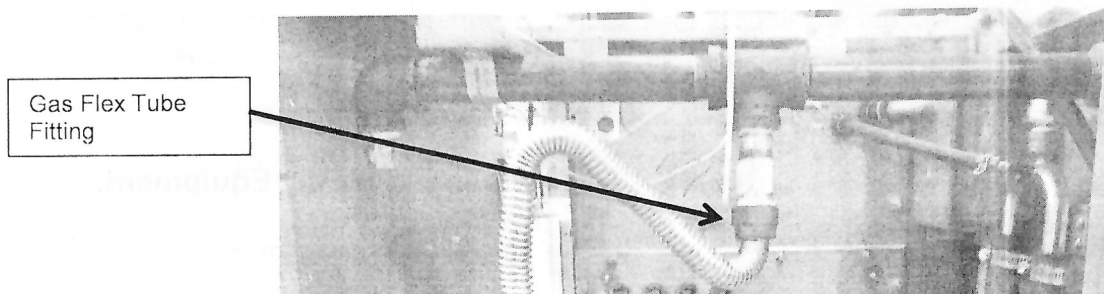

Figure 1: Gas Flex Mount
- d) Wearing appropriate eye/ear protection, use a crescent wrench to partially open and slowly bleed one of the gas fittings on the gas flex tubes indicated in Figure 1 **Error! Reference source not found.** Continue to slowly bleed gas until no more gas can be heard escaping the fitting.